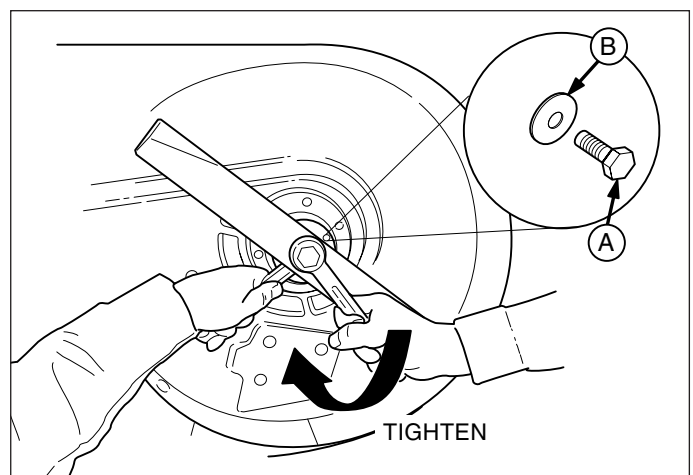

Figure 22. Installing The Blade
5. Reinstall each blade with the tabs pointing up toward deck as shown in Figure 22. Secure with a bolt and flat washer and torque bolts to 70 ft.lbs. (94 N.m.).